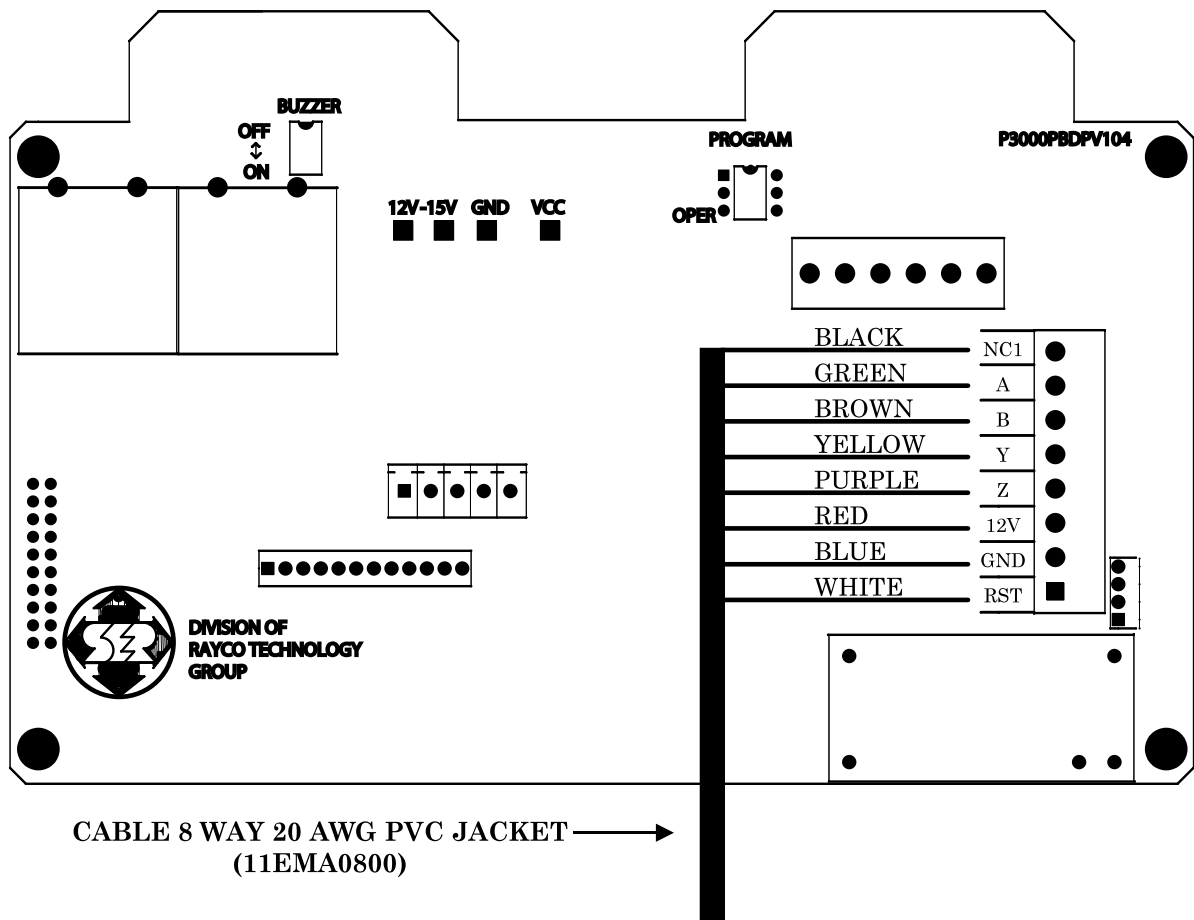

Figure 2.2.2 Display terminal block connection
If the display is pre-wired this section is not relevant, proceed to section 2.3. Cable connections to the display are made using the 8 screw terminals on the display processing board. These terminals are shown on figure 2.2.2. Use the following instructions to connect the i3000 display.
3. Wire according to the supplied drawing on figure 2.2.2. Connect the wires by stripping off 6 mm of insulation, inserting the wire into the proper terminal and tightening the screw firmly.